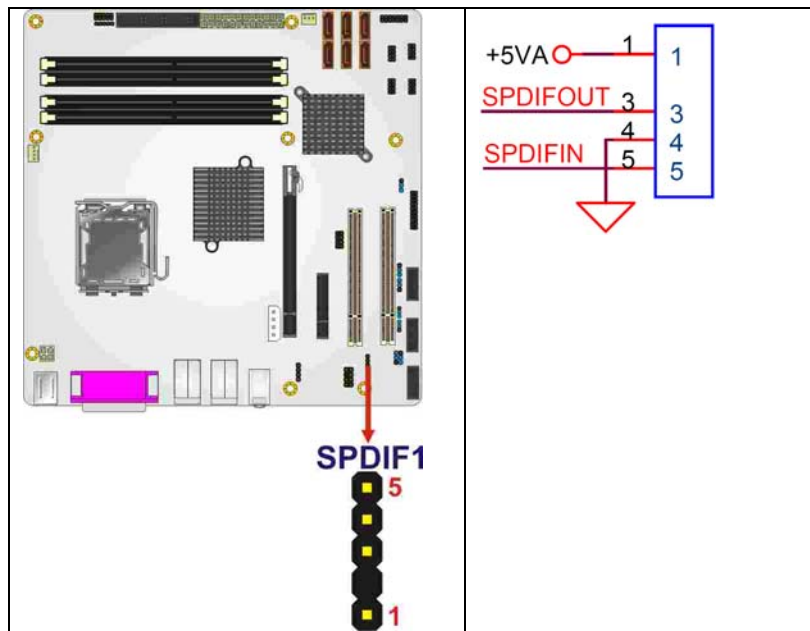

Figure 4-15: SPDIF Connector Location
- CN Location:** See **Figure 4-15**